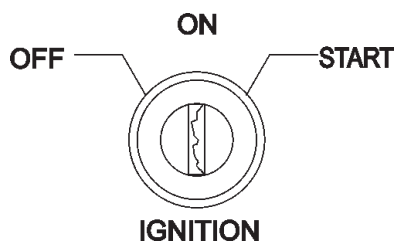

Figure 20. Ignition Switch
3. To start the engine, insert the key (Figure 20) into the ignition switch and turn the key to the **ON** position.